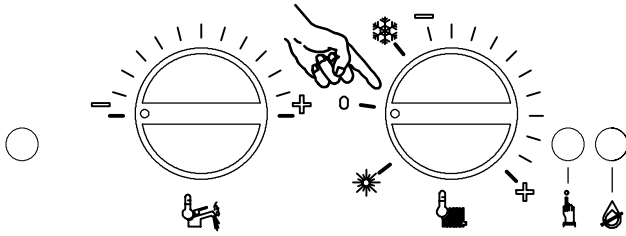

Fig. 59
- 1 Set the function selector of the boiler in stand-by mode (Fig. 59).